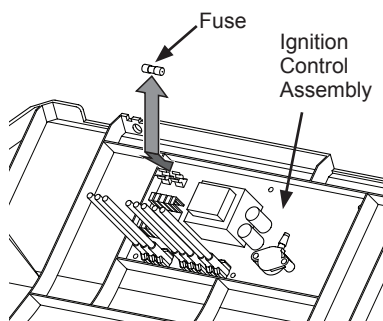

Figure 20 - Replacing Fuse
3. Remove fuse from fuse clips (see Figure 20).